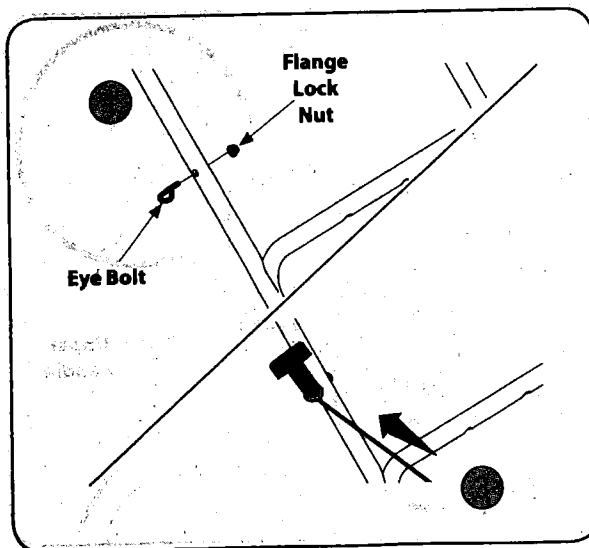

Figure 3-10
NOTE: Use the hardware in Group 5 and refer to Figure 3-10 to complete the following steps.
1. Attach the eye bolt to the upper handle and loosely thread the lock nut on to secure it. Do NOT tighten. See Figure 3-10.
3. Loop the rope through the eye bolt. See Figure 3-10.